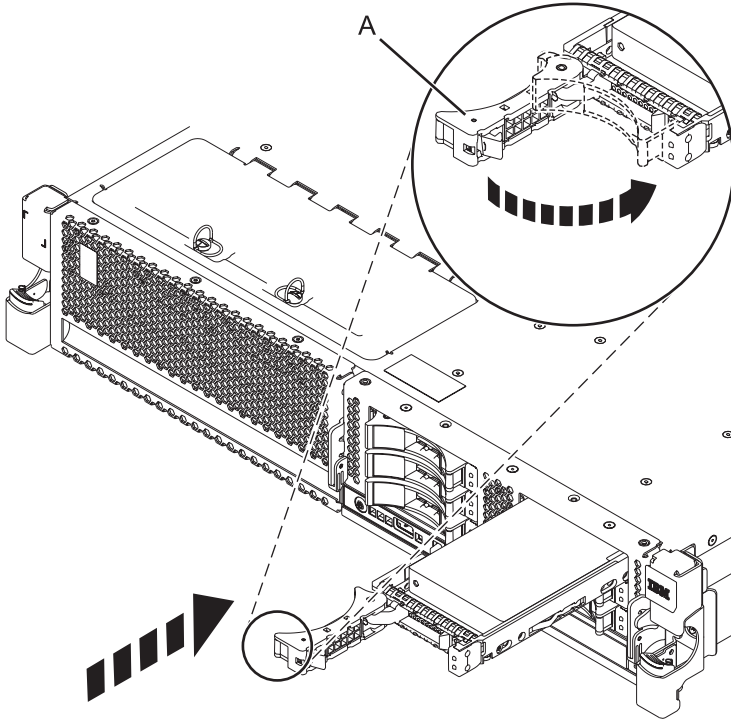

Figure 24. Installing a disk drive in the system
5. When the identify LED flashes, slide the drive all the way into the system, and push the drive handle (A) in until it locks, as shown in Figure 24 on page 42.